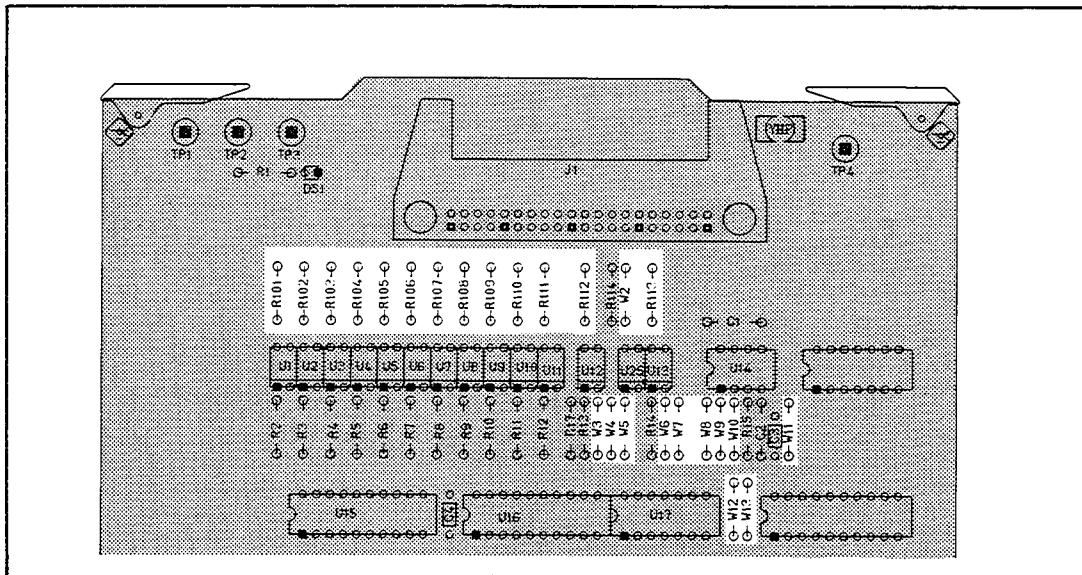

Figure 6-15. Jumper Settings
(2) ORANGE and ORANGE (See Figure 6-15)